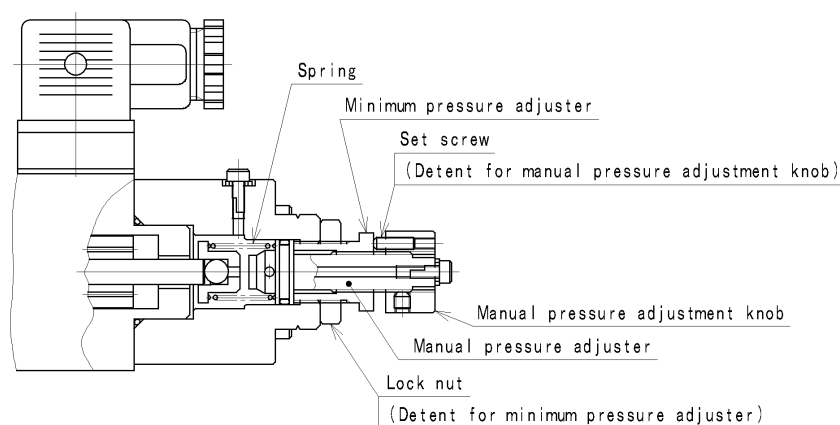
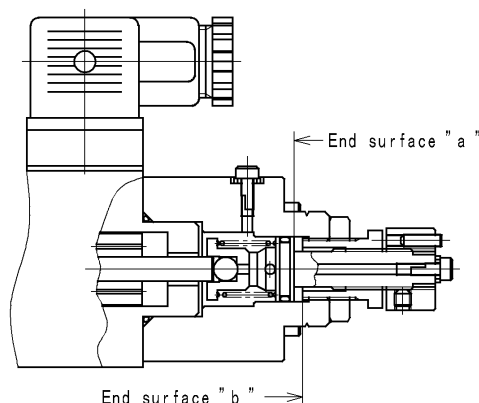

Fig. 2 The state of shipment from factory
Fig. 3 The state of manual operation
This pilot valve can set the pressure by manual operation even when no electric power is supplied. Refer to Fig. 2 and Fig. 3.
Fig. 2 shows the state of shipment from the factory and Fig. 3 shows the state of manual operation.
- (1) Loosen the set screw.
- (2) Rotate the manual pressure adjustment knob counter clockwise (C.C.W.).
- (3) The end surface “a” and end surface “b” in Fig. 3 are close together and can not rotate any more.
- (4) Fix the manual pressure adjustment knob with the set screw.